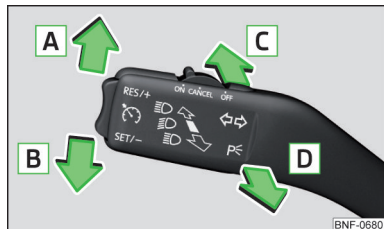

Fig. 41
Control lever positions » Fig. 41
- Place the control lever to position **A** or **B** as far as the stop » Fig. 41 on page 48.